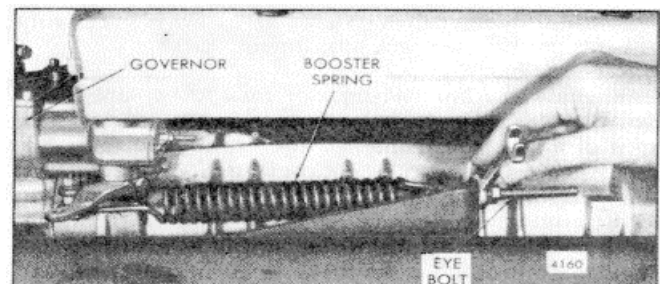

Fig. 14. - Adjusting Booster Spring
2. Refer to Fig. 14 and loosen the nut on the booster spring retaining bolt on the governor speed control lever. Loosen the locknuts on the eye bolt at the opposite end of the booster spring.